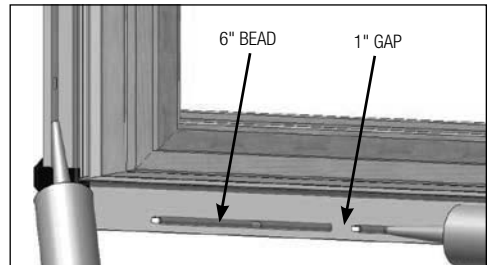

FIG. 12
- b. On the head and side jamb nailing fins, run a 1/4" continuous bead of silicone in line with and completely covering the nailing flange holes. (Fig. 12)
- c. On the sill nailing fin, run a discontinuous bead to allow for any drainage. Alternate using a 6" long bead with 1" gaps as shown below. (Fig. 12)